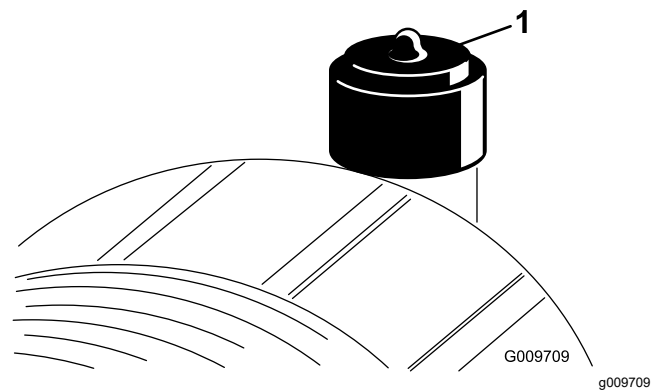

Figure 82
Service the air-cleaner filter only when the service indicator (Figure 82) requires it. Changing the air filter before it is necessary increases the chance of dirt entering the engine when you remove the filter.
2. Reset the indicator (Figure 82) if it shows red.